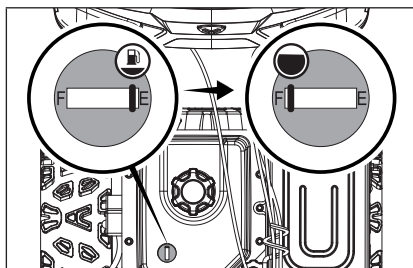

Figure 10
3. The approximate fuel level is shown on the fuel gauge on top of the fuel tank. (Fig. 10).